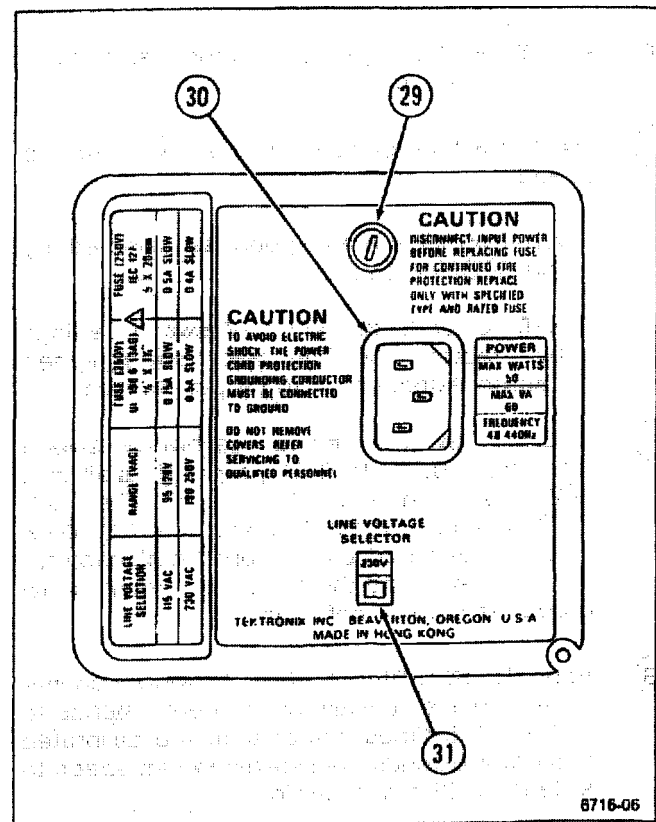

Figure 2-3. Rear Panel.
Refer to Figure 2-3 for items 29 through 31.
- (29) Fuse Holder**—Contains the ac-power-source fuse. See the rear-panel nomenclature for fuse rating and line-voltage range.
- (30) Detachable-Power-Cord Receptacle**—Provides the connection point for the ac-power source to the instrument.
- (31) Line Voltage Selector Switch**—Selects the line voltage operating range of either 115 Vac or 230 Vac.